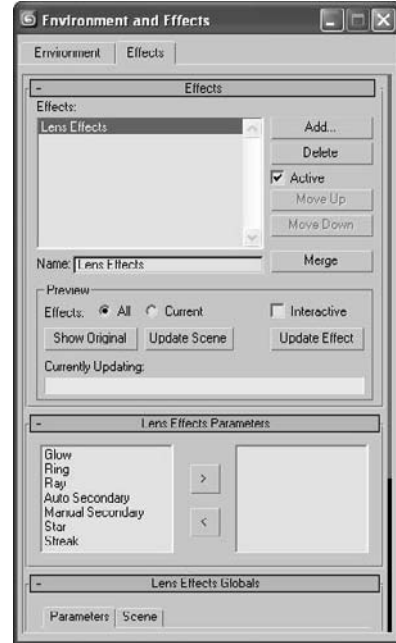

Figure 11.31
4. In the menu bar, choose Rendering → Effects to open the Environment and Effects window. Click the Add button. Then pick Lens Effects from the Add Effect dialog box. Figure 11.31 shows that the Lens Effects have been added.